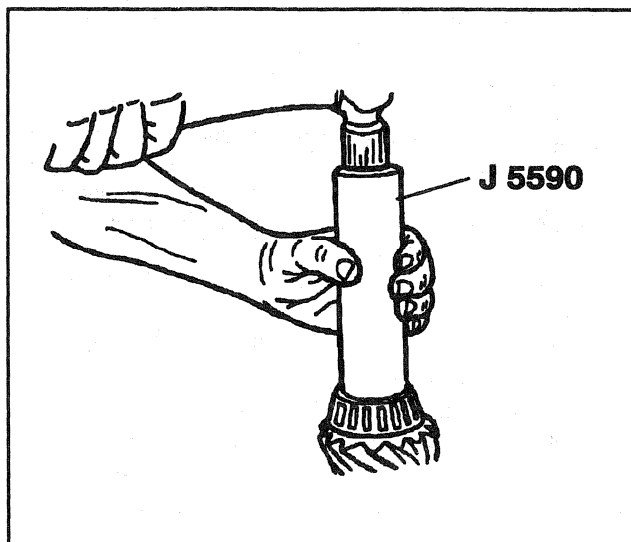

Figure 22—Installing Inner Bearing
3. Inner bearing cone (and slinger if used) on pinion. Drive the bearing cone onto the Pinion shaft using J 5590 (Figure 22).